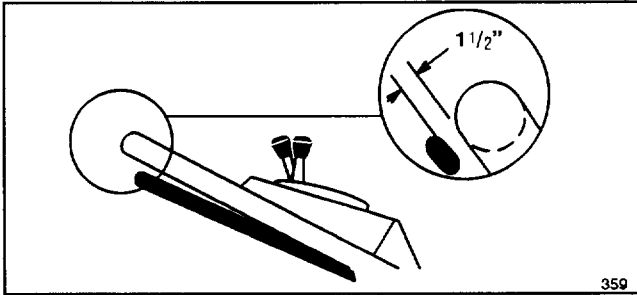

Figure 24
2. **CHECK ADJUSTMENT**—Slowly pull mower backward while control bar is gradually moved toward handle. Adjustment is correct when rear wheels stop turning and control bar is about 1 1/2 inches from handle (Fig. 24).